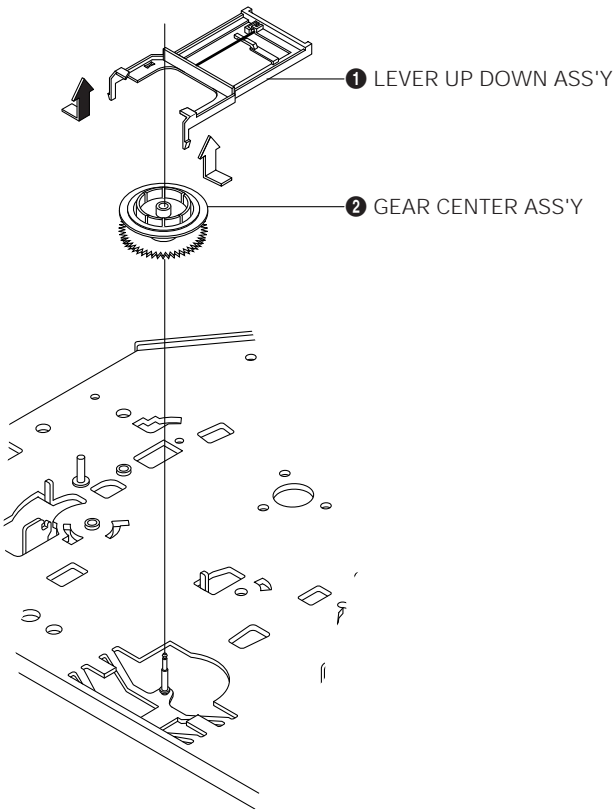

Fig. 1-20 Lever Up Down Ass'y, Gear Center Ass'y Removal
- 1) Remove the 2 hooks in the direction of arrow as shown Fig. 1-20 and lift the Lever Up Down Ass'y ①.
- 2) Lift the Gear Center Ass'y ②.